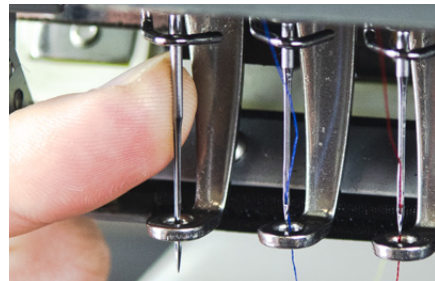

Figure 117
4. Needles have a long groove on the front and a short half-moon-shaped section called the scarf on the rear. With the long groove facing the front of the machine, insert the new needle by placing the point through the presser foot, and inserting the shank into the needle bar. **See Figure 117.** Refer to needle diagram on page 53.